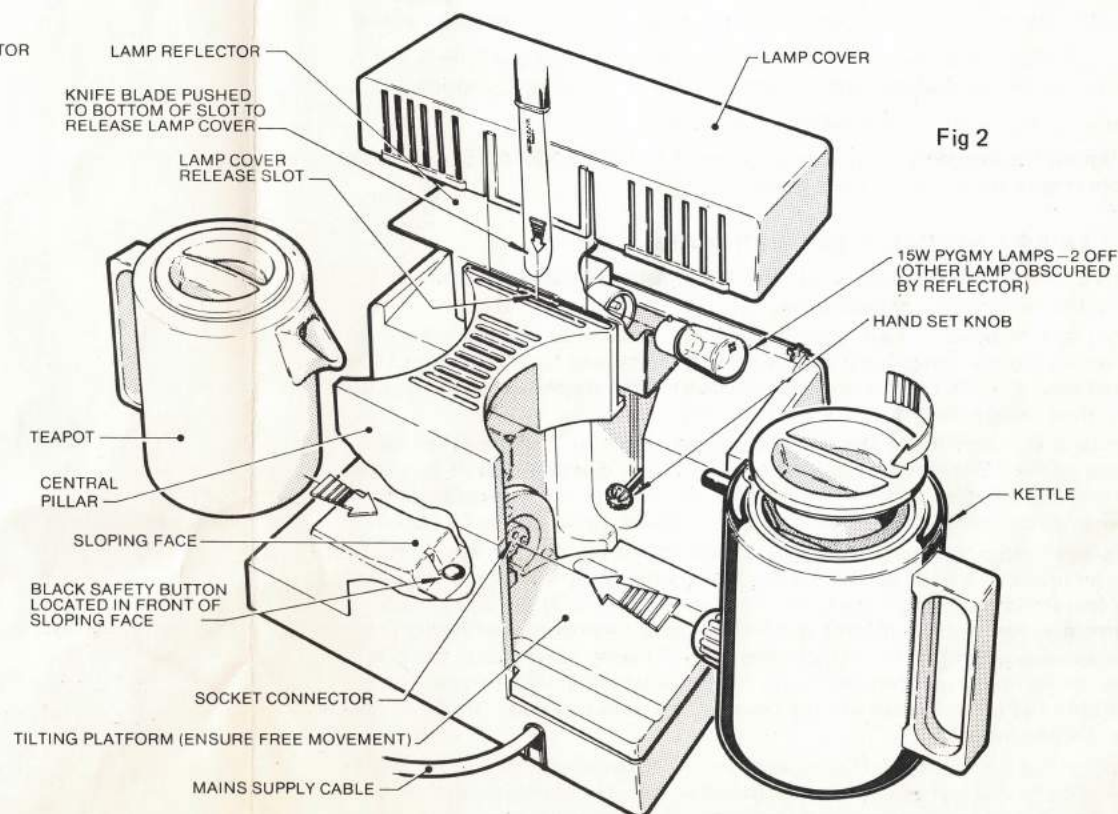

Fig 2
**Use of clock alarm only:** Your TEASMADE can be used as an alarm only. To use in this manner proceed as follows. Place the teapot in position (see Fig 2) and press down 'AUTO' key of switch. The alarm will sound approximately twelve minutes in advance of the time set and this should be taken into account when setting the alarm. The kettle may be left in position provided it is empty.